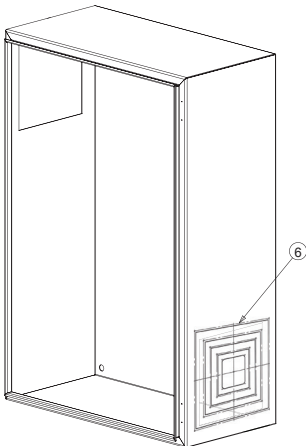

Figure 1
1. Apply cutout template to the side of the enclosure located as desired. See Figure 1